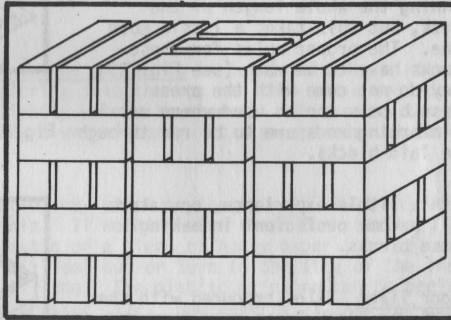

Fig. 21 - Blocks stacked for 10-day cure
67. After the overnight drying, the blocks should still be protected from the weather because they must still cure slowly for four or five more days. Soaking will harm the blocks at this stage. Sunshine will make them cure too quickly, reducing their strength. In very hot climates blocks should be kept moist during this period. In any climate they should be prevented from curing too fast. For the first four days they should be sprinkled lightly with water twice a day. A plastic cover is useful to maintain moisture in the pile. If lime is used, double the curing time. The blocks can be re-stacked ten rows high on edge for the next curing period of 10 days. The blocks must not be stacked solidly; there should be a space of about an inch between blocks to let them cure properly. A good stacking arrangement is three blocks side by side with an inch space between them crossed with three blocks above -- alternating the direction of each layer (See Fig. 21).